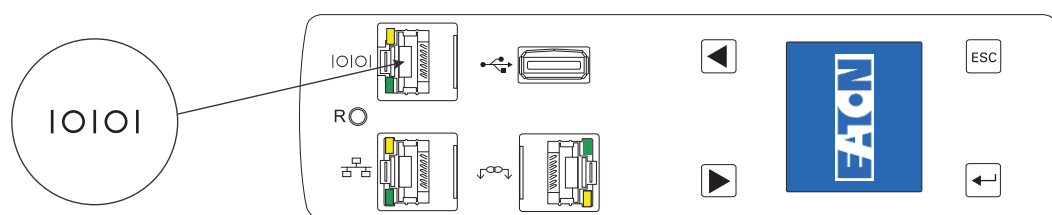

Figure 32. Connecting to a Computer Serial Port (0U Models)
3. Connect the RJ-45 end of the cable to the RS-232 connector on the front panel of your ePDU model (see Figure 32). Connect the DB9 end of the cable to the serial connector on the computer.